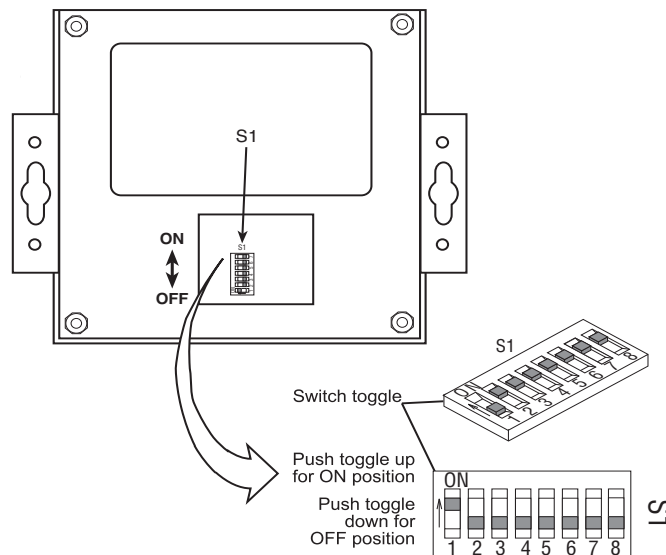

Figure 7. DIP switch orientation
2. The DIP switches are externally accessible from the underside of the CL1212E. Figure 7 shows the orientation of the DIP switches in the On and Off positions.